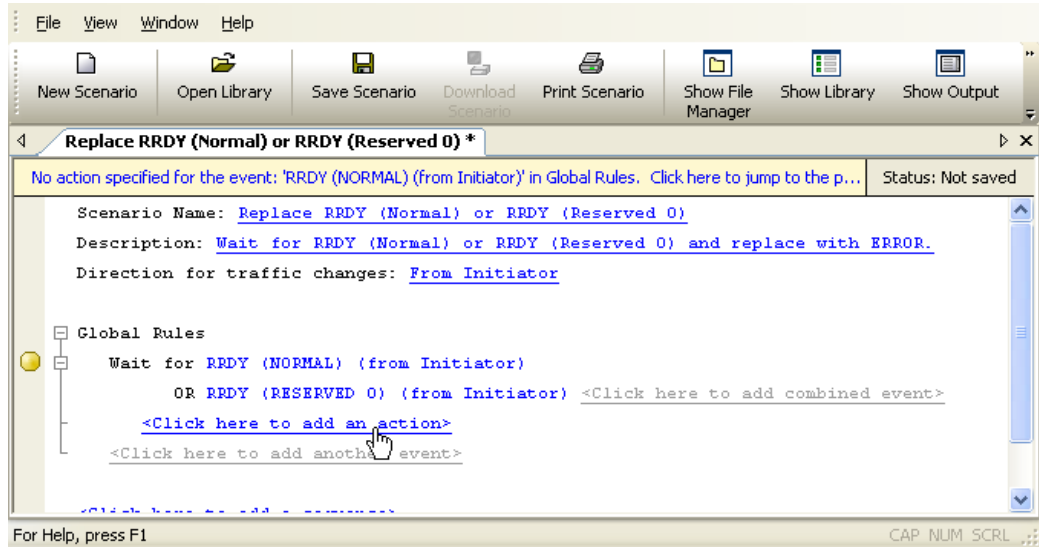

Figure 56 Example 3: Entering the Action
- Step 7** In the Global Rules area, click on the prompt to **add an action** (Figure 56).